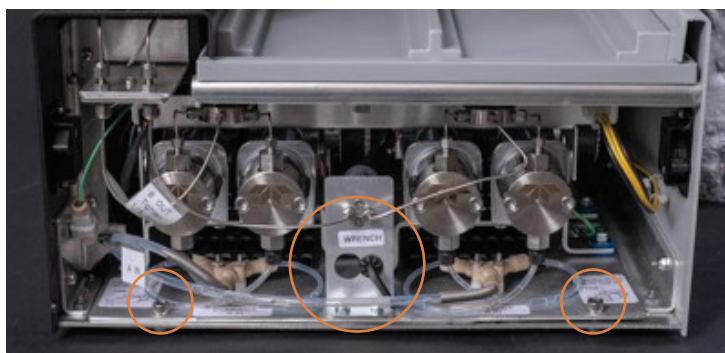

Figure 2-6 Location of threaded holes, in the base of the unit, and the hex wrench
6. To hold the pump in place, use the two hex screws, removed previously, and the hex wrench to secure the pump assembly (Figure 2-6).